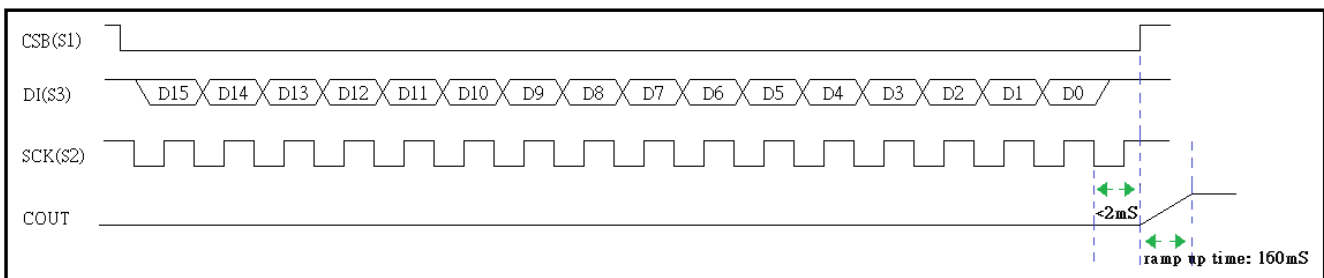

Fig. 13 Power-Down command timing
- a. Command timing reference Fig. 13 Power-Down command timing.